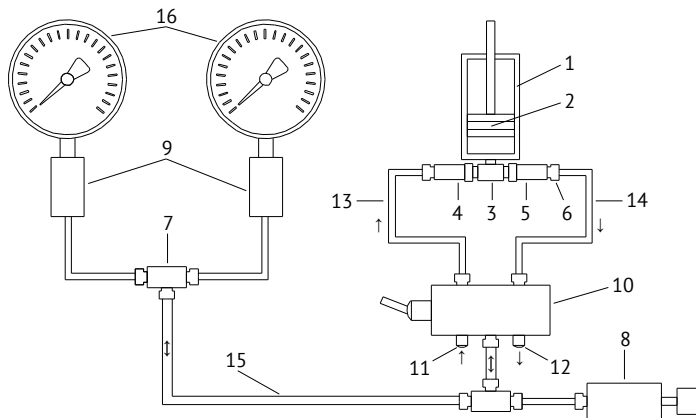

Fig. 2 PUSK pneumatic circuit:
4.2 Pneumatic circuit is shown in Fig. 2.
4.3.2 When piston 2 (Fig. 2) moves up, valve 4 opens, and air is delivered to cylinder 1 through filter 11, selector 10, vacuum line 13 and valve 4. When piston 2 moves down, valve 4 closes, and valve 5 opens, and the air from the cylinder through pressure line 14 and selector 10 is delivered to measuring line 15, generating gauge pressure. During further pumping, pressure in the measuring line will increase. In order to reduce pressure in the measuring line it's required to slowly half-open the adjustable throttle 8.